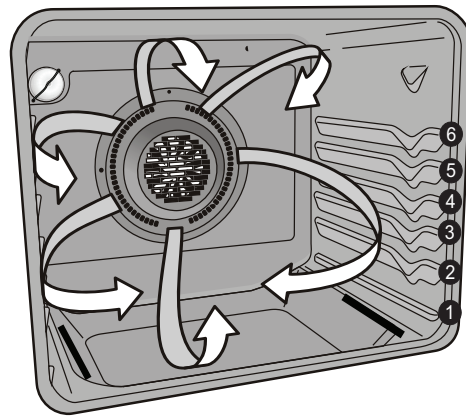
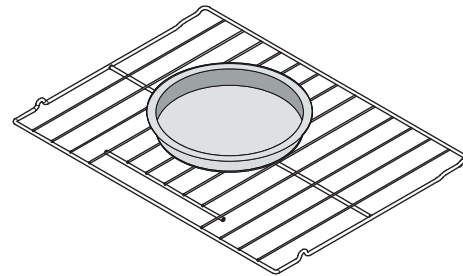

Figure 11: Rack positions
Figure 12: Suggested pan placement
- Always place food in center of the oven on rack position 4 (Figure 11). Place the food as shown in Figure 12.